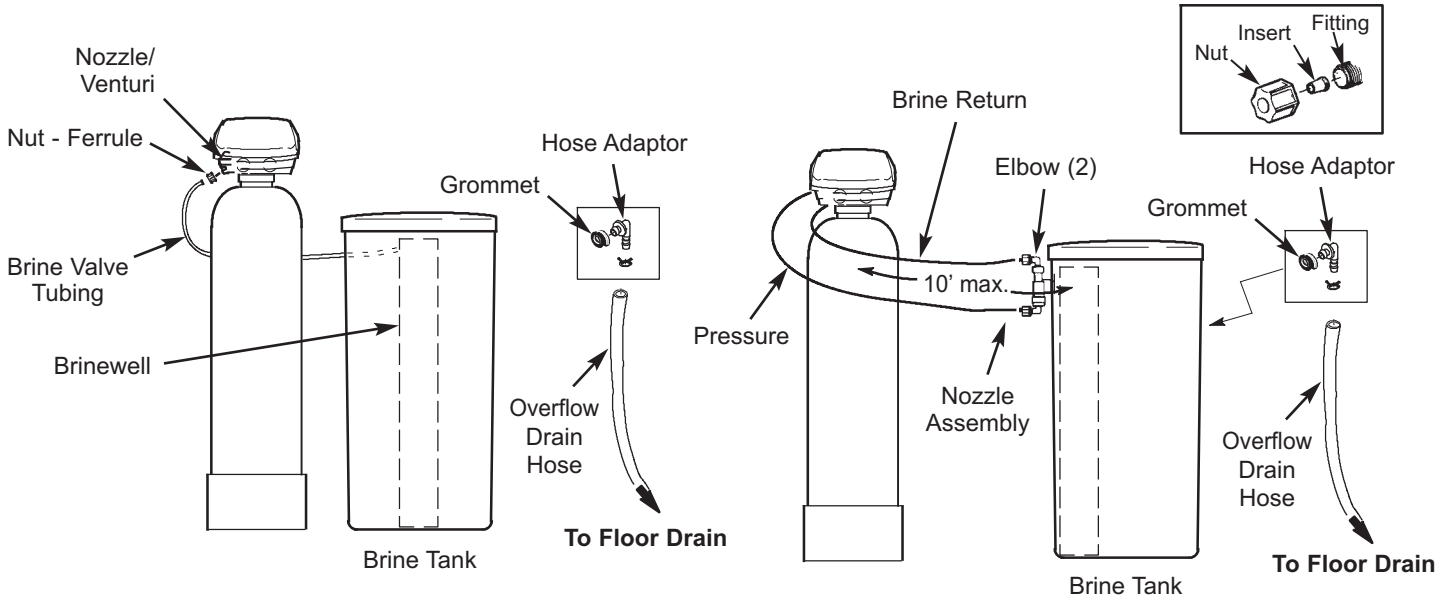

FIG. 7
2. Softener Models: Move the brine tank assembly into position nearby the resin tank. Enough tubing is included to allow locating the tank up to 10 feet away from the resin tank (Figure 7).
3a. Softener Model 071 - Connect Tubing: Thread the brine tube through the hole of the brine tank sidewall. Fasten tubing to the nozzle assembly (Figure 7) using the compression nut-ferrule, tightening securely, by hand only.
i. Install two elbows (in separate parts bag with the brine tank) into the top and bottom of the nozzle assembly (Figure 7).